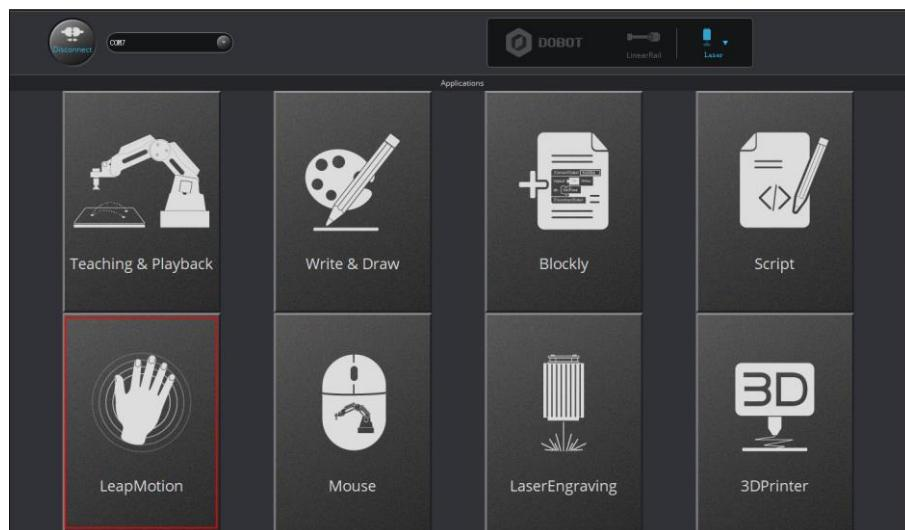

Figure 5.109 Click LeapMotion
**Step 2** Click **LeapMotion**, as shown in Figure 5.109.